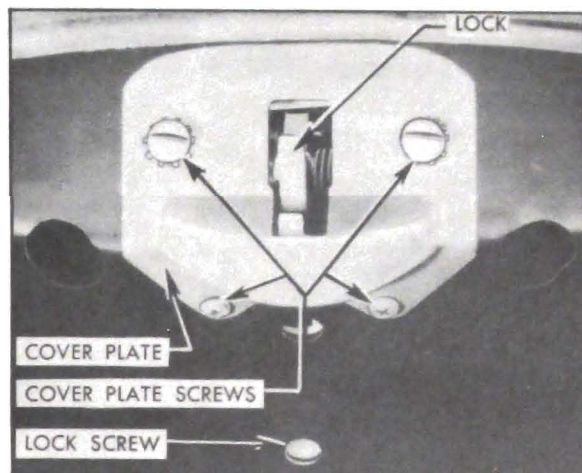

Figure 13-10—Lock Attaching Screws and Cover Plate
3. To remove the lid lock, remove lock screw, the four lock and cover plate screws, and the cover plate shown in figure 13-10. Lock assembly can then be removed from lid inner panel.